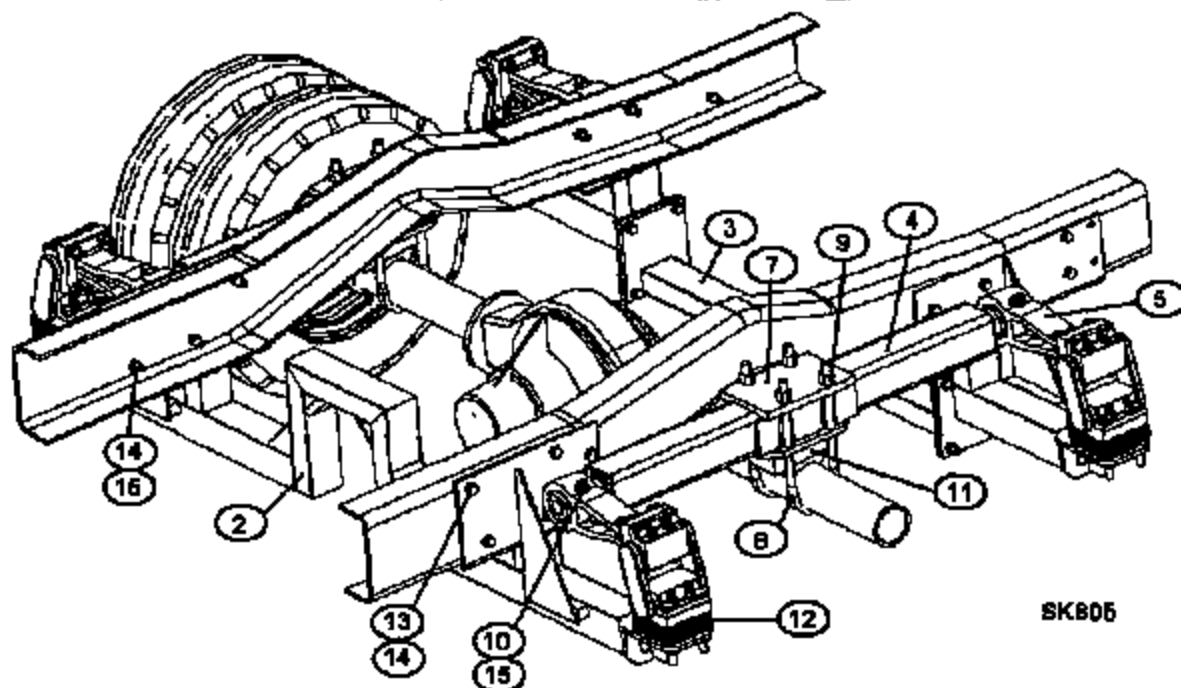

FIGURE 5
4. Attach Sub-frames: Ream out the diameter of the eight (four each side) front OEM leaf spring bracket holes to $\frac{1}{2}$ inch diameter. Position the front sub-frame (2) (see Figure 5) forward of the axle with the sub-frame end plate away from the axle. Guide the sub-frame in and over the drive shaft and then upward with the brackets to the outside of the frame. Position the bracket by aligning the sub-frame's holes to the front OEM leaf spring bracket holes in the frame. Attach the front sub-frame (2) to the frame using the OEM leaf spring bracket holes with eight $\frac{1}{2}$ "-20 x 1-3/4" Gr. 8 bolts (13), nuts (15), and washers (14). Install the bolts with a flat washer on each side of the frame rail and with the bolt heads on the outside of the frame and the nuts on the inboard side of the frame rail. Torque the $\frac{1}{2}$ " nuts to 90-100 ft-lbs. (ALL TORQUES IN THIS BULLETIN ARE FOR DRY TORQUES). Prior to installing the rear sub-frame (3), lower and remove the fuel tank in order to attach the sub-frame to the frame rail. Ream out the diameter of the two most forward holes in the frame for the rear OEM leaf spring bracket to $\frac{1}{2}$ inch diameter. Position and align the rear sub-frame by lining up the rear-most 2 holes in the sub-frame bracket with the two most forward holes of the OEM rear leaf spring bracket. Attach the sub frame using four $\frac{1}{2}$ "-20 x 1-3/4" Gr. 8 bolts with nuts and washers. Two additional holes in the sub-frame bracket should then align with two smaller holes in the frame rail, ream these holes out to $\frac{1}{2}$ inch diameter and then secure with $\frac{1}{2}$ "-20 x 1-3/4" Gr. 8 bolts, nuts and washers. Torque the $\frac{1}{2}$ " nuts to 90-100 ft-lbs. Raise and reattach the fuel tank.
Use this IPL with Figure 5